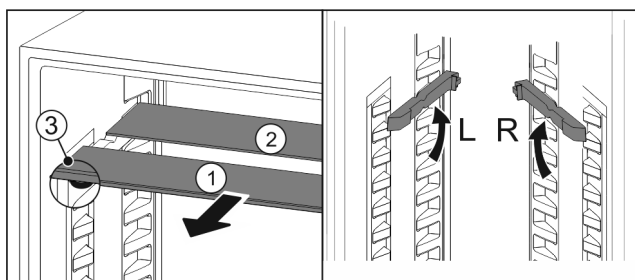

Fig. 158
- Pull the glass panels out Fig. 158 (1) from the front, one at a time.
- The glass panel Fig. 158 (1) and trim strip are at the front.
- The stops Fig. 158 (3) point down.